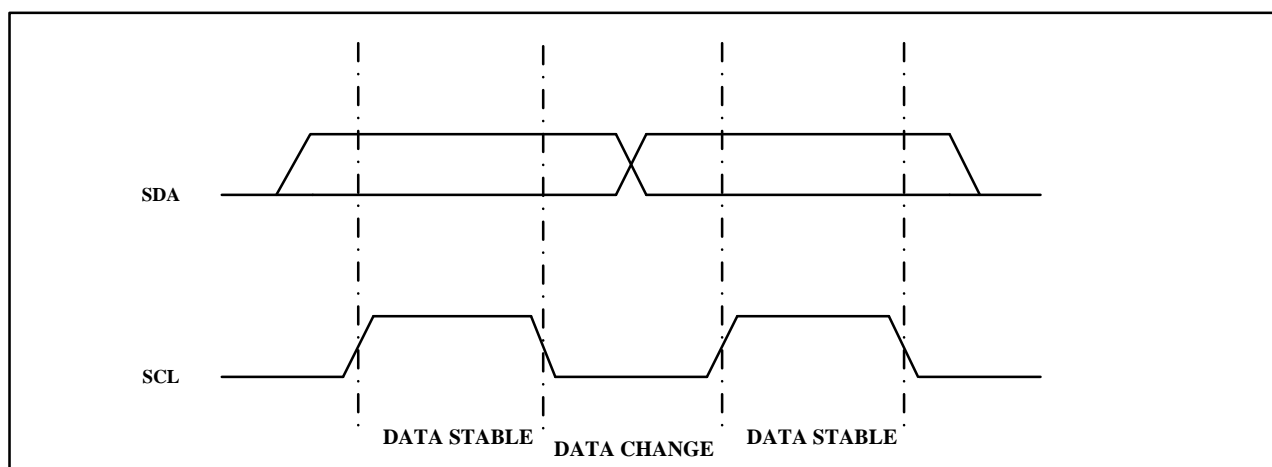

Figure 2. Data Validity
**CLOCK and DATA TRANSITIONS:** The SDA pin is normally pulled high with an external device. Data on the SDA pin may change only during SCL low time periods (see Figure 2). Data changes during SCL high periods will indicate a start or stop condition as defined below.